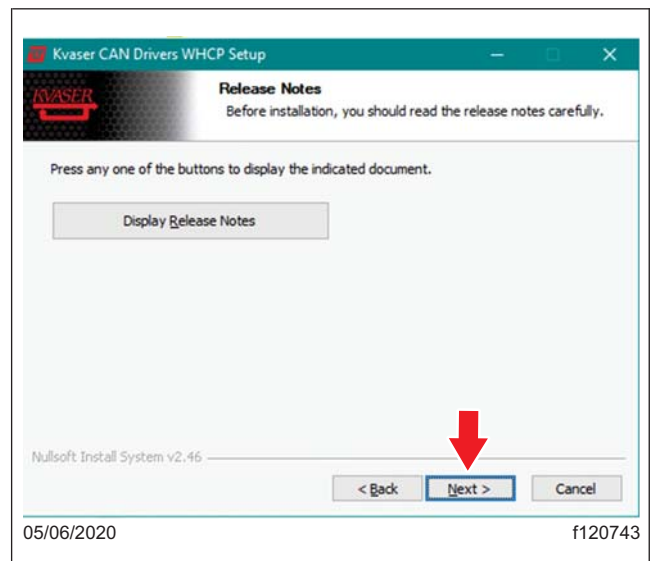

Fig. 10, Release Notes Window
13. The 'Release Notes' window will appear. Select 'Next' as shown in Fig. 10.